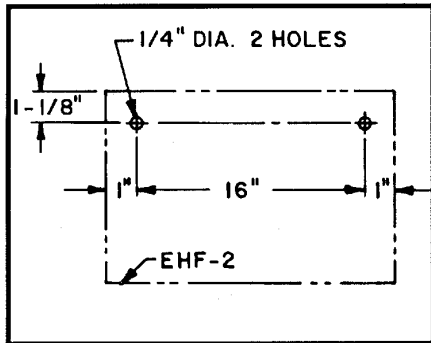

Figure 3-1
2. **Drill two 1/4" holes** in the wall. Be sure these mounting holes are drilled into studs, or some equally strong structure. (See Figure 3-1)